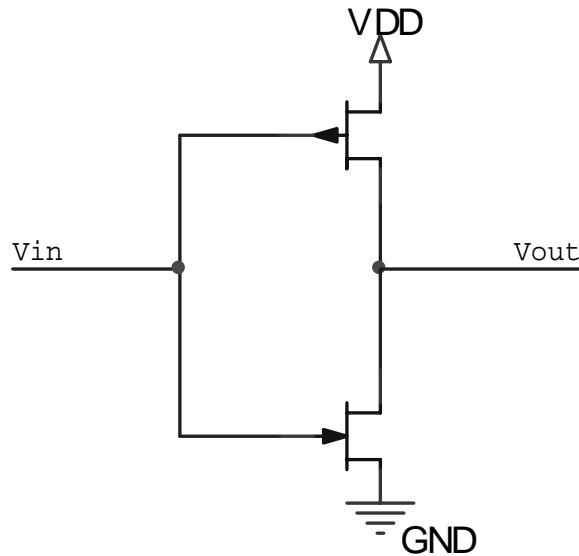
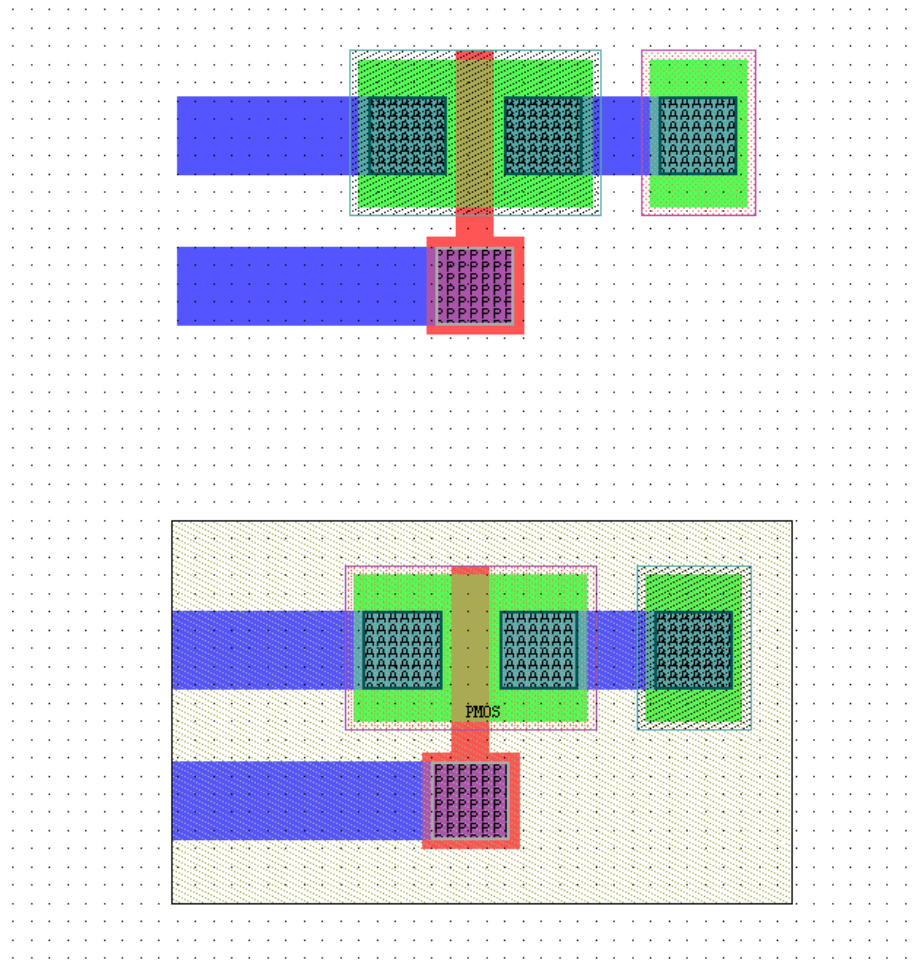
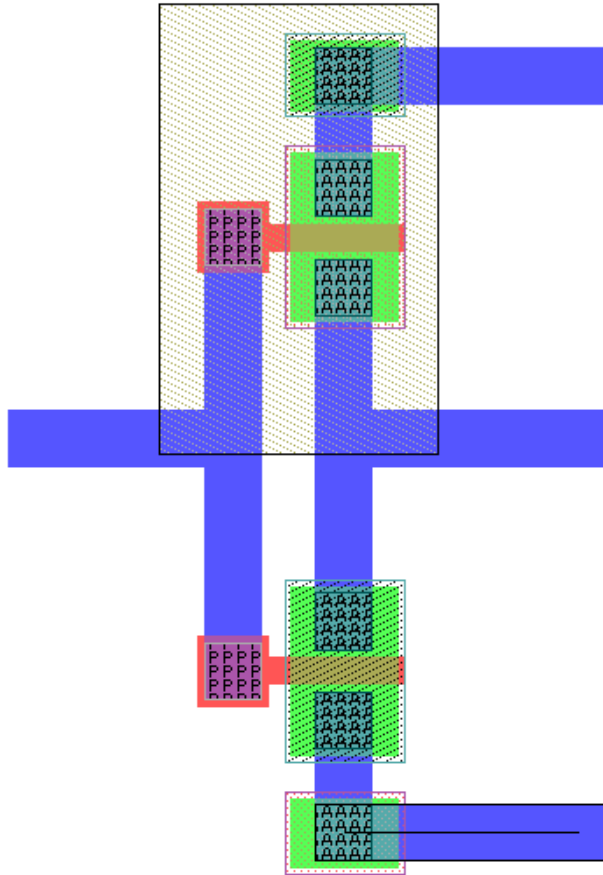

Figure 17. Inverter Schematic
Figure 19. NMOS and PMOS Cells Placed
Figure 20. After Rotation and Metal1 Wire Connections
In the first tutorial we created a **tutorial.tdb** file containing the cells **NMOS** and **PMOS**. Because of the hierarchical design structure of L-Edit, we can now use these two cells together in a third cell to create an inverter, as shown in Figure 20.
2. After instantiating both cells in the **Inverter** cell, we will have something similar to the layout view shown in Figure 19. Obviously it would be difficult to wire the cells up in this orientation, so we need to rotate and mirror the cells until we have them in an arrangement more conducive to orderly wiring. Figure 20 displays the **PMOS** and **NMOS** cells rotated and connected together with Metal1 wires to match the schematic of Figure 17. If you now make changes to **PMOS** or **NMOS** cells, these changes will be automatically reflected in the **Inverter** cell.